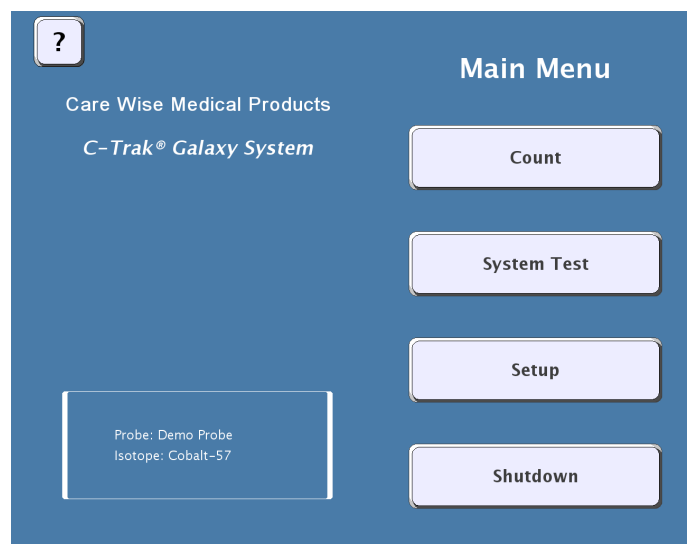

Figure 11 – Main Menu Screen
- (8) **Main Menu Button** – Pressing this button directs the user to the MAIN MENU [Figure 11], described in 2.4-6.
The Main Menu [Figure 11], allows the user to navigate to the Count Screen (described in 2.4-1), System Test Screen (described in 2.4-7), and Setup Screen (described in 2.4-8), and also allows the user to turn off the C-Trak® Galaxy System’s power using the “Shutdown” button, (described in 2.4-13).
On the System Test Screen [Figure 12], reached from the Main Menu [Figure 11], a user can calibrate and test all functionality of the Galaxy system. When a user presses the PERFORM SYSTEM TEST, the Galaxy system will both calibrate and test the system.